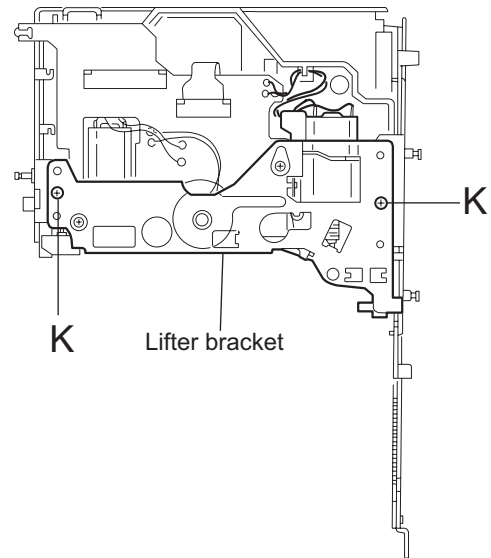

Fig.21
2.4.8 Remove the lifter bracket (See fig.21)